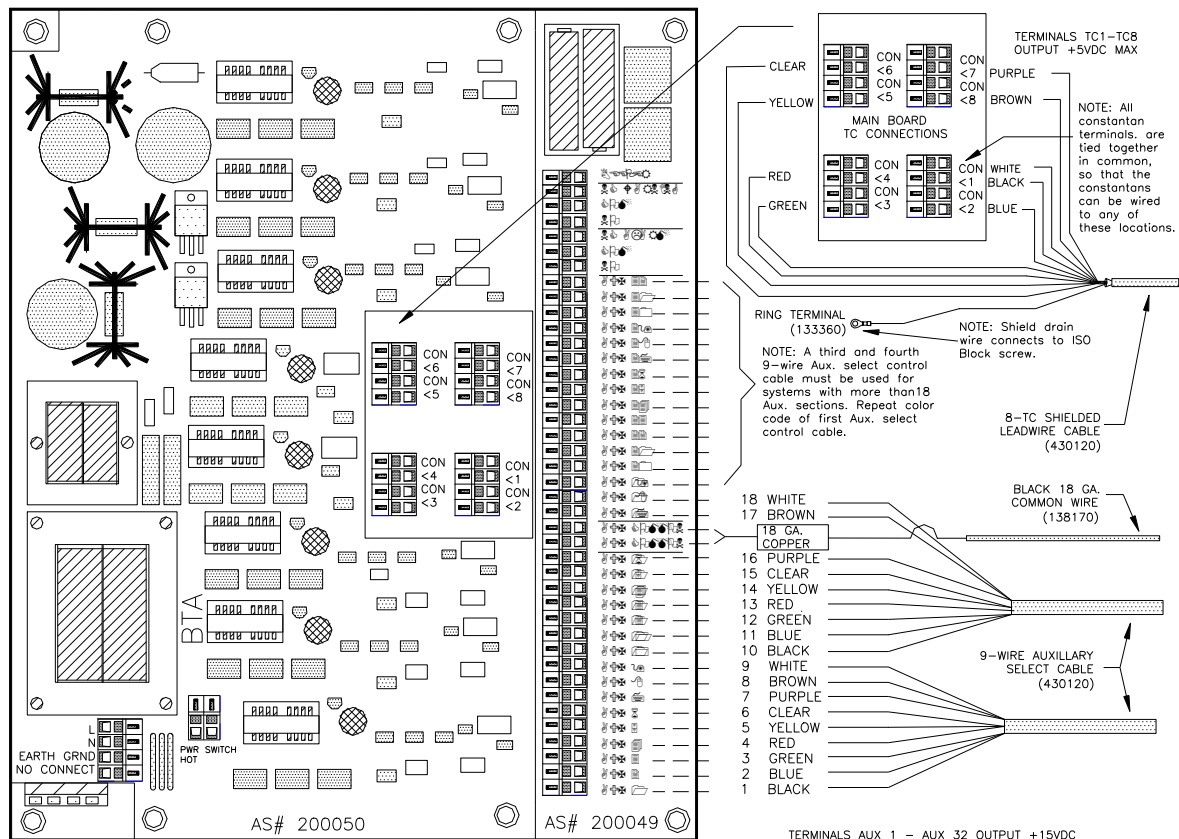
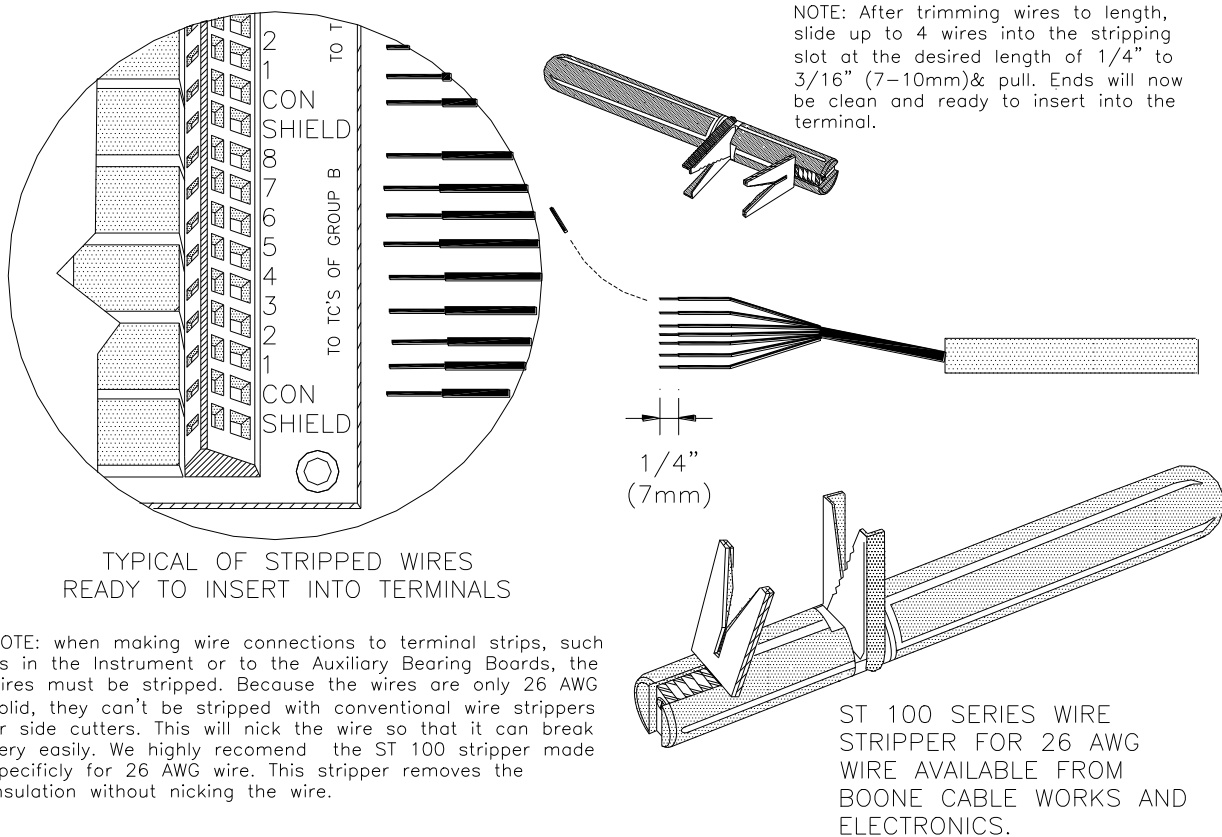

Figure 9. INSTRUMENT CABLE CONNECTIONS
Figure 13. Termination of Wires
6.4.2. Terminations are done where the cables are connected to the circuit boards. BTA boards use a Cage-Clamp type terminal blocks. See Figure 13. For the gauges of wire used in our cables, we have found that this spring-pressure provides a more reliable connection regardless of temperature variations, vibration, and corrosive environments. They also reduce overall wiring and maintenance time. See Figures 9, 11 & 12.
6.5.3.10. As long as there are no more than three wires under a crimp splicing can be accomplished without stripping the individual conductors. If stripping is needed it should be done using the appropriate tool referred to in Figure 13.